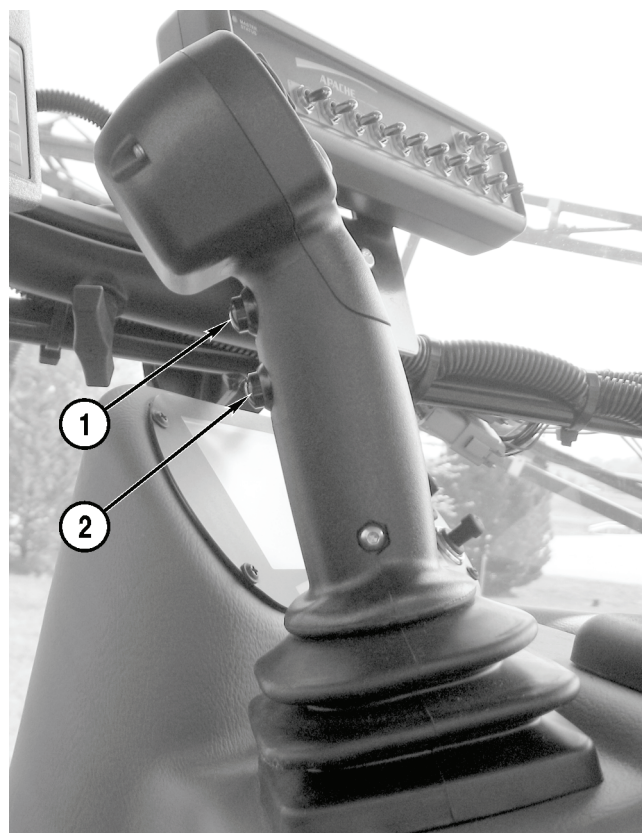

Figure 3-21
3. To shift into REVERSE from NEUTRAL, squeeze and hold the bottom trigger button (**Figure 3-21, 2**) on the T-handle.
The reverse button (**Figure 3-21, 2**) must be held at all times to move in REVERSE.
NOTE: The T-handle will not shift the transmission into NEUTRAL. To obtain NEUTRAL from a REVERSE gear, release the bottom trigger button (**Figure 3-21, 2**) on the T-handle
NOTE: If the Apache Sprayer is moving in REVERSE and the reverse button (**Figure 3-21, 2**) is released, the transmission will shift into NEUTRAL. Once the Apache Sprayer is below 1400 rpm and 4 mph (6.4 km/h), squeezing and holding the reverse button (**Figure 3-21, 2**) shifts the transmission into the gear the Apache Sprayer was in before NEUTRAL.